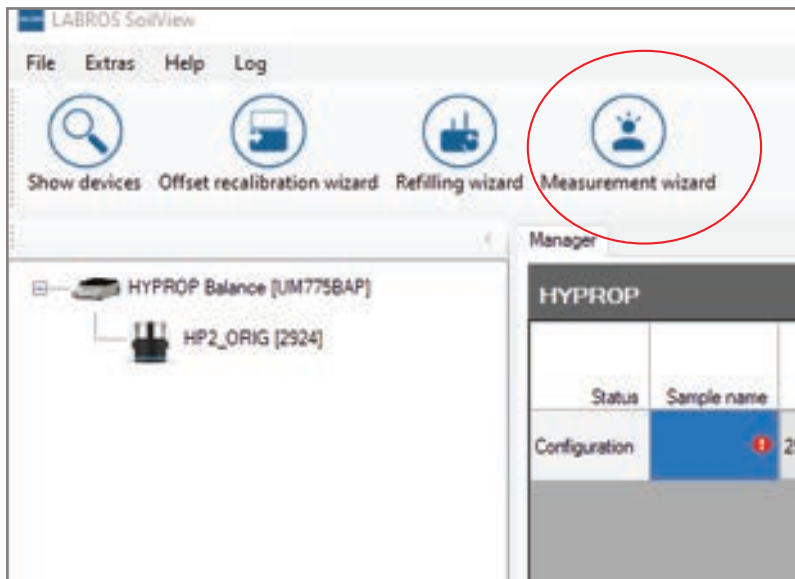

Figure 60 Measurement Wizard icon
1. Open the Measurement Wizard by clicking on the Measurement Wizard icon (Figure 60).
4. Select Apply to start the measurement (Figure 60).